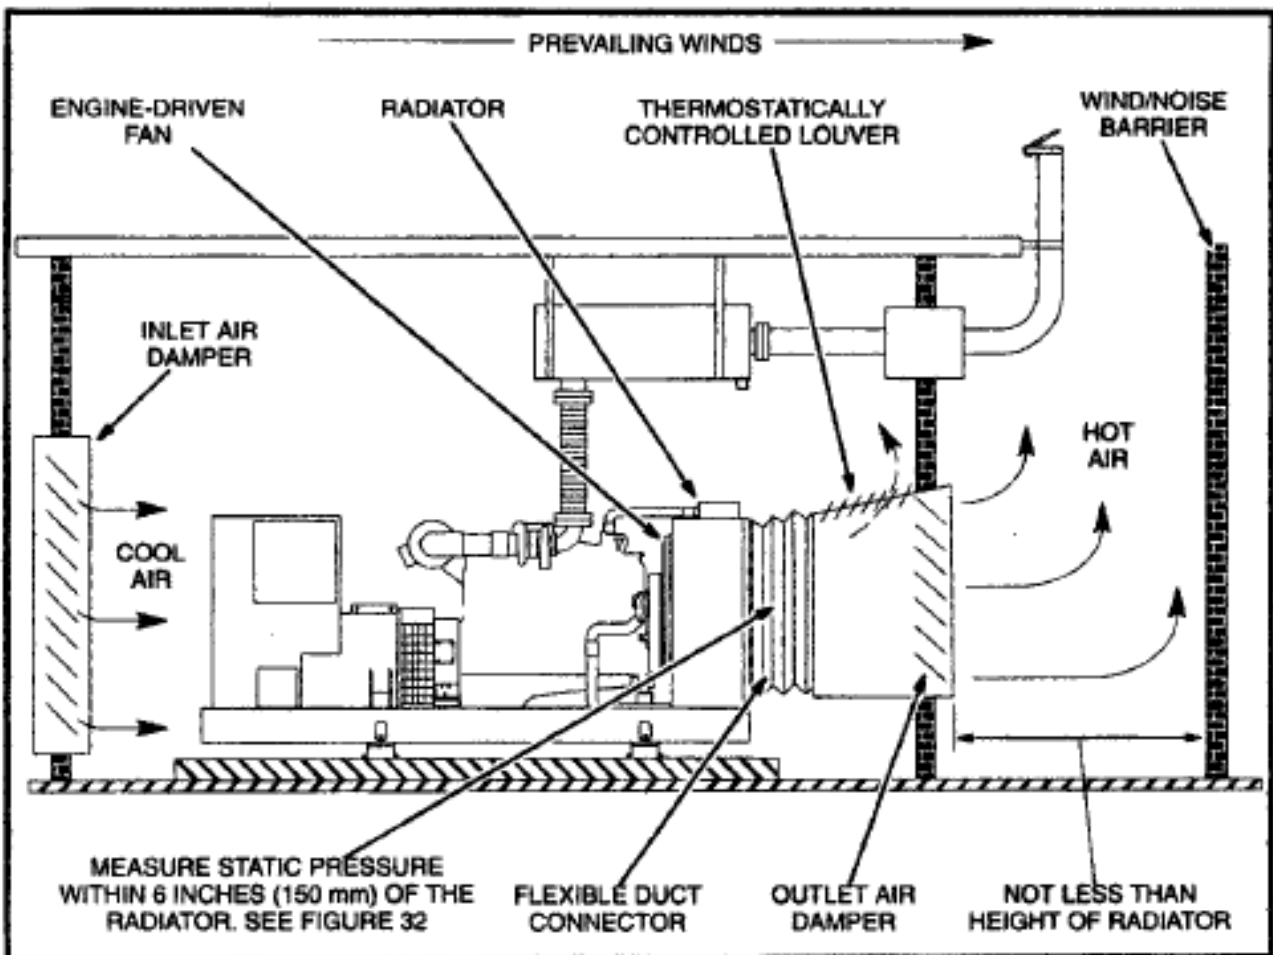

FIGURE 31. FACTORY-MOUNTED RADIATOR COOLING
In this configuration (Figure 31), the fan draws air over the set and pushes it through the radiator; which has flanges for connecting a duct to the out-of-doors. Consider the following:
- See the generator set Specification Sheet for the design airflow through the radiator, allowable airflow restriction and minimum air inlet and outlet opening areas. The allowable airflow restriction must not be exceeded. The static pressure (air flow restriction) should be measured as shown in Figures 31 and 32 to confirm, before the set is placed in service, that the system is not too restrictive, especially when ventilating air is supplied and discharged through long ducts, restrictive grilles, screens and louvers.